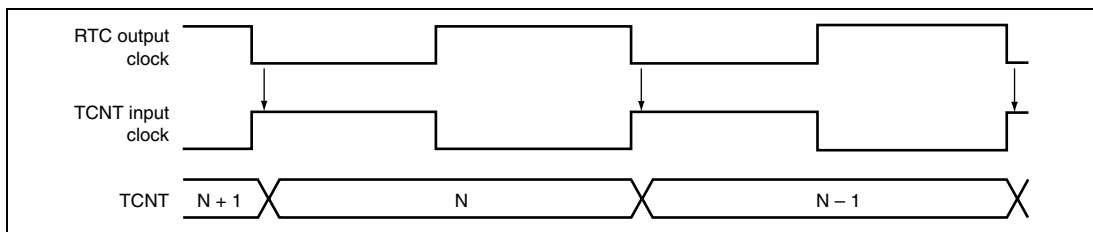

**Figure 12.6 Count Timing when On-Chip RTC Clock Is Operating**
3. **On-Chip RTC Clock Operation:** Set the TPSC2 to TPSC0 bits in TCR to select the on-chip RTC clock as the timer clock. Figure 12.6 shows the timing.